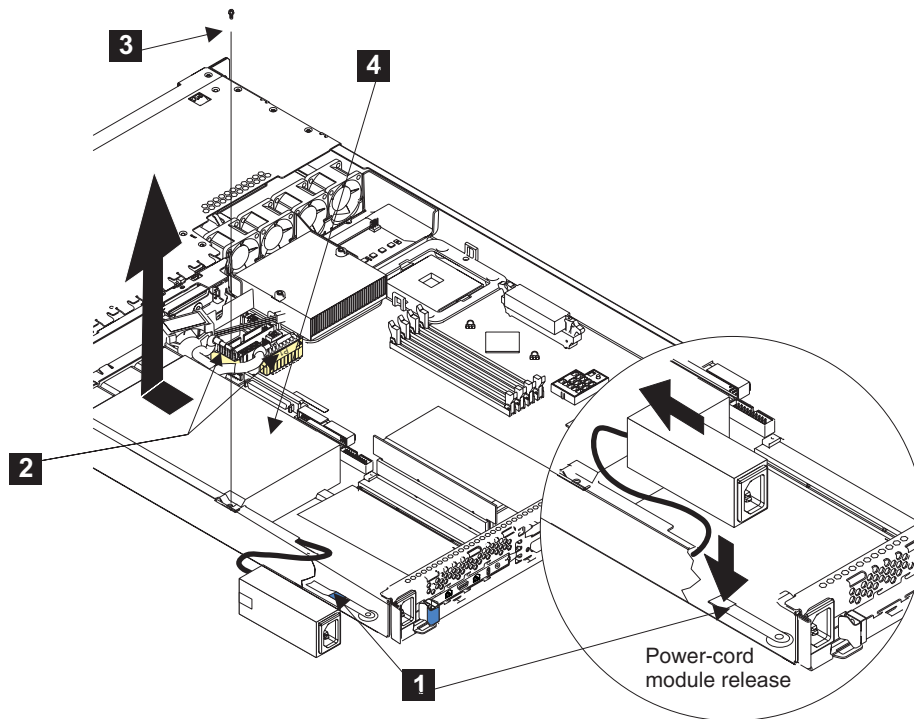

Figure 188. Replacing the SAN Volume Controller 2145-4F2 power supply
1. Slide the power supply **4** into the SAN Volume Controller 2145-4F2, as shown in Figure 188 on page 516.